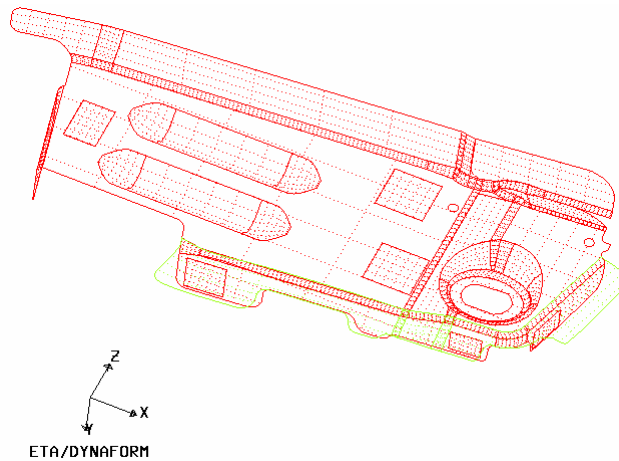

Figure 6.1.7 Unfolded Flange
- Select OK to accept the defined bent angle. The unfolded surfaces are shown in Figure 6.1.7 in yellow.